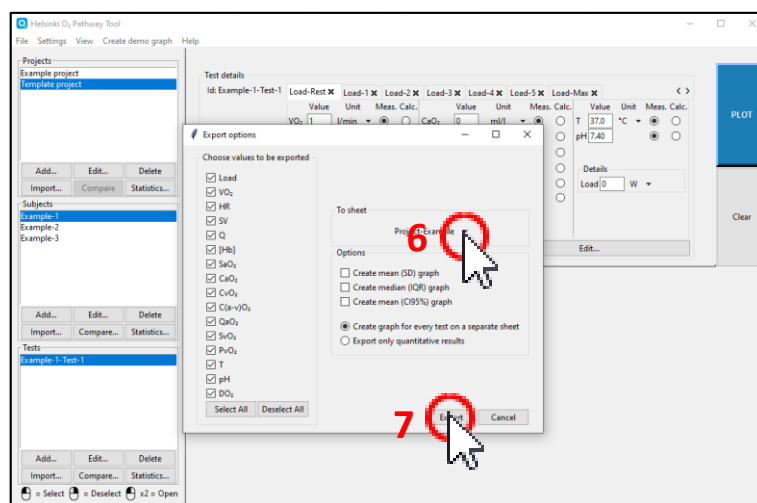

Figure 51
5. Select parameters to be exported (figure 51).
6. Select the sheet you want to append the data to (figure 51).
7. Click the “Export” button (figure 51).